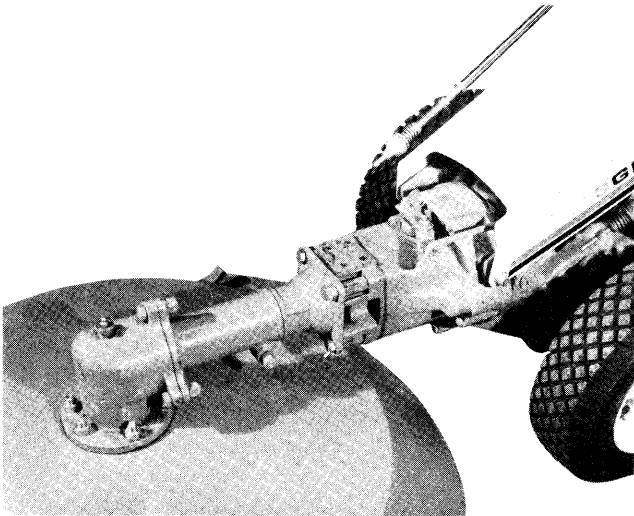

Fig. 9
2. The mower attaches to the tractor with 4 bolts as shown in fig. 9.